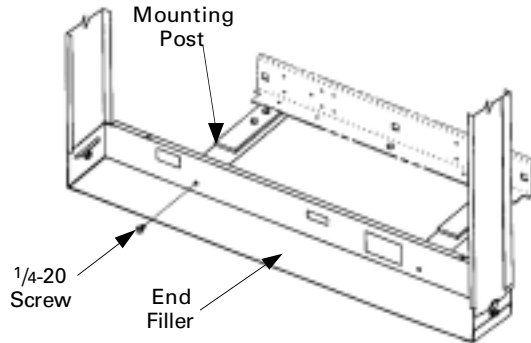

Figure 7. Fastening the end fillers to the mounting posts.
**36–44-inch-wide panels.** Refasten the end fillers to the mounting posts, tightening the 1/4-20 screws to 50–60 in-lb, as shown in Figure 7. The end filler plate with labeling attached must be placed at the load end of the panel, opposite to the incoming power.